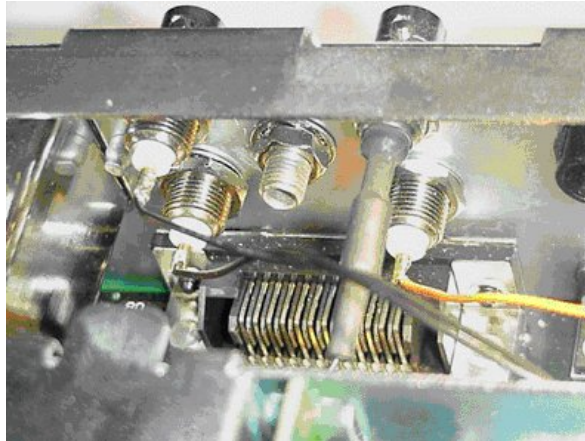

Figure A-8 Fit the three BNC connectors into the three holes in the rear panel
- 8 Securely fit the three BNC connectors into the three holes in the rear panel, as shown in Figure A-8. Use the 25 lb/in torque wrench to tighten the nuts.